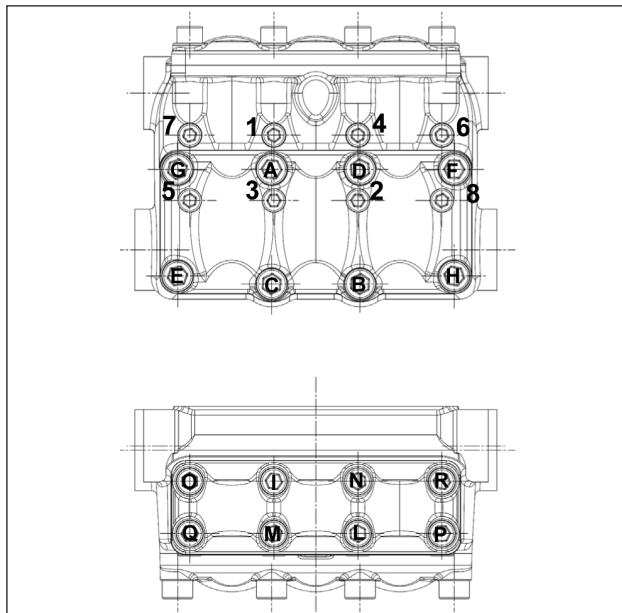

Fig. 31
\*\*\* The valve cover fixing screws exploded view pos. 45 and exploded view pos. 58 must be tightened with a torque wrench respecting the order shown in the diagram in Fig. 31.